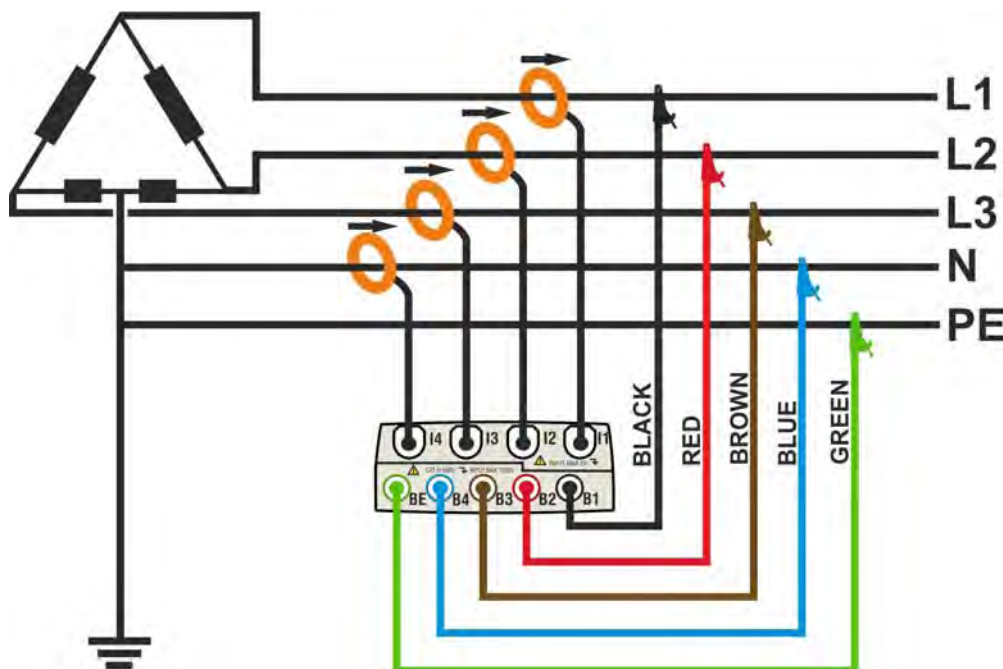

Fig. 122: Meter connection in a three phase 4-wire 3P HL system – ENG type
2. Connect voltage test leads on Phases L1, L2, L3, N and PE cables considering the colours as shown in Fig. 122. **Verify the result "123" at display relative to a correct phase sequence indication** (see § 5.2.1) and perform the corrections if necessary.
3. Connect the transducer current clamps on Phase L1, L2, L3 and N cables as shown in Fig. 122 respecting the clamp's arrow direction indicating the current standard sequence from generator to load. **On Real Time Values' section screens (selecting a 3 wire system preliminarily) always verify the positive value of Active Power and the power factor relative to load which should be normally inductive** before starting a recording. Reverse the clamp by 180 degrees on cables in case of negative readings.